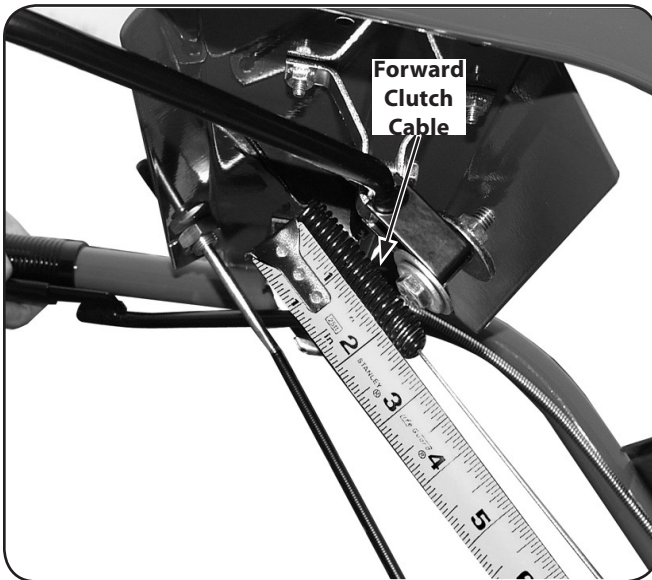

Figure 6-5
2. The coiled part of the forward clutch spring measures 2" in length when the Forward Clutch Control levers are not pulled up. Pull the Forward Clutch Control Lever up against the handlebar and measure the length of the coil on the forward clutch spring. Tension is correct if the length of the extended coil is 2-1/2". The forward clutch control cable needs adjustment if the extended length of the coil is not 2-1/2". See Figure 6-5.